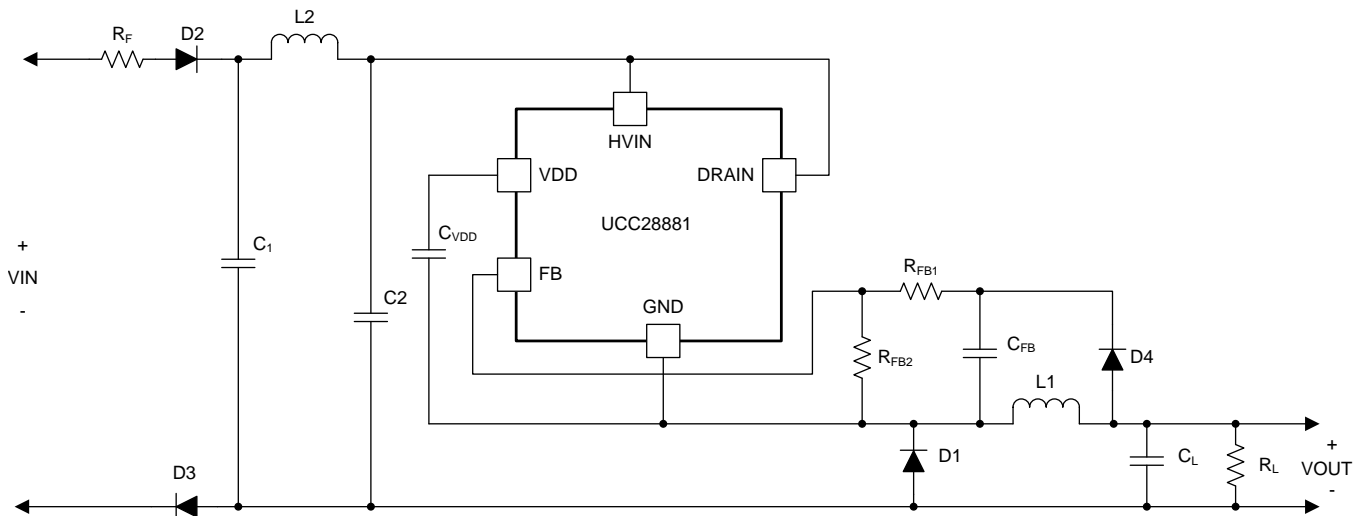

Figure 16. Universal Input, 12-V, 225-mA Output High-Side Buck
The UCC28881 can be used in various application topologies with direct or isolated feedback. The device can be used in low-side buck, where the output voltage is negative, or as a low-side buck-boost configuration, where the output voltage is positive. In both configurations the common reference node is the positive input node (VIN+). The device can also be configured as a LED driver in either of the above mentioned configurations. If the application requires the AC-to-DC power supply output to be referenced to the negative input node (VIN-), the UCC28881 can also be configured as a traditional high-side buck as shown in Figure 16. In this configuration, the voltage feedback is sampling the output voltage VOUT, making the DC regulation less accurate and load dependent than in low-side buck configuration, where the feedback is always tracking the VOUT. However, high-conversion efficiency can still be obtained.
Figure 16 shows a typical application example of a non-isolated power supply, where the UCC28881 is connected in a high-side buck configuration having an output voltage that is positive with respect to the negative high-voltage input (VIN-). The output voltage is set to 13 V in this example, but can easily be changed by changing the value of R_{FB1}. This application can be used for a wide variety of household appliances and automation, or any other applications where mains isolation is not required.
- C_{BULK(min)} is minimum value for the total input capacitor value (C1 + C2 in the schematic of Figure 16).
In low-side buck converter the output voltage is always sensed by the FB pin and UCC28881 internal controller can turn on the MOSFET on VOUT. In high-side buck converter applications the information on the output voltage value is stored on C_{FB} capacitor. This information is not updated in real time. The information on C_{FB} capacitor is updated just after MOSFET turn-off event. When the MOSFET is turned off, the inductor current forces the freewheeling diode (D1 in Figure 16) to turn on and the GND pin of UCC28881 goes negative at $-V_{d1}$ (where V_{d1} is the forward drop voltage of diode D1) with respect to the negative terminal of bulk capacitor (C1 in Figure 16). When D1 is on, through diode D4, the C_{FB} capacitor is charged at $V_{OUT} - V_{d4} + V_{d1}$. Set the output voltage regulation level using Equation 16.
- R_{FB1} , R_{FB2} is the resistance of the resistor divider connected with FB pin (see Figure 16)
- Select the time constant τ_{FB} , given in Equation 17 (16)